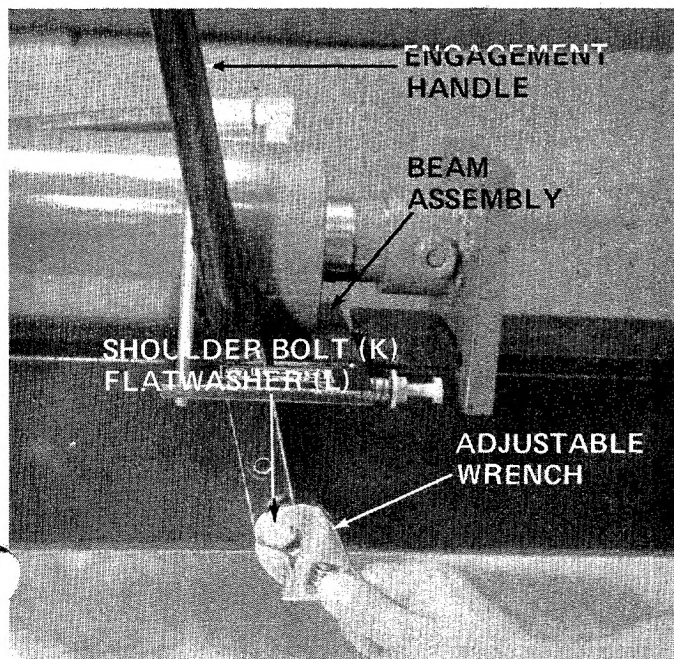

FIGURE 10
10. Assemble the engagement handle to the beam assembly using shoulder bolt (K) and flat washer (L). A 5/8" wrench is required. See figure 10.